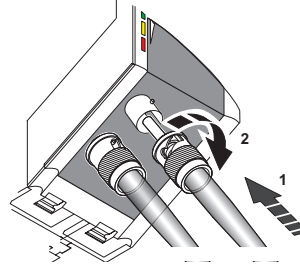

Figure 13 B-FOC connection
- Secure the connection with a quarter turn to the right (see 2 in Figure 13).